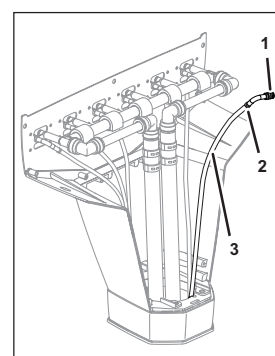

Fig. 22
- If available, attach a nozzle (Fig. 22/1) to an unused tube (Fig. 22/3) of the python and attach the tube (Fig. 22/3) to the nozzle (Fig. 22/1) using a clamp (Fig. 22/2).
Otherwise, install a new tube (Fig. 22/3) in the python.